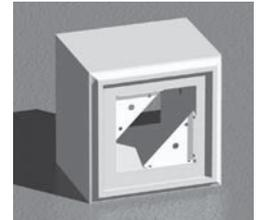

FIGURE 6B
**B)** Install the two STEEL CORNER BRACKETS inside the NEWEL POST TOP SECTION using the #10 x 3/4" FLAT HEAD SELF TAPPING SCREWS provided (Fig 6B). NOTE: Align diagonally to match THREADED RODS.